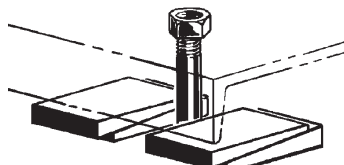

Figure 2-2
3. Support the baseplates on metal shims or wedges having a small taper. (Refer to Figure 2-2)
- a. Place shims close to the foundation bolts. (Refer to Figure 2-2)